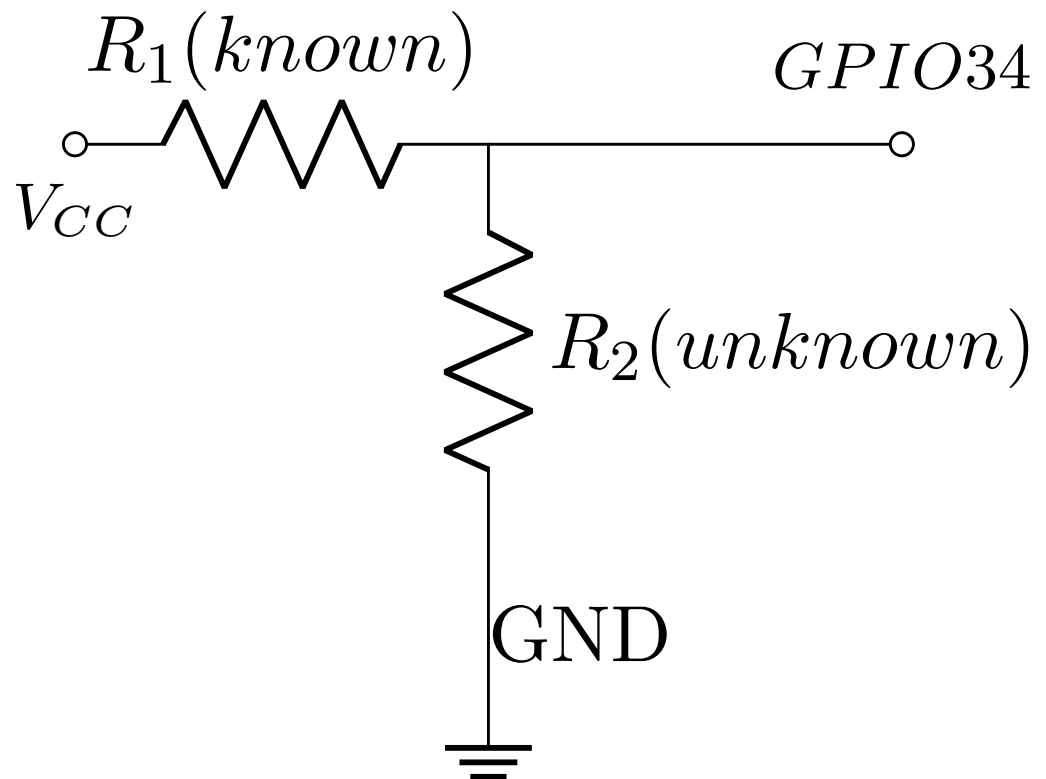

Figure 1.2.3.1: Voltage Divider
in series such that  $R_1$  is connected to  $V_{cc}$  and  $R_2$  is connected to GND. Refer to Fig. 1.2.3.1
1.2.4. The Ohm meter in this manual works on the principle of the voltage divider shown in Fig. 1.2.3.1.
1.4.3. Let  $R_1$  be the known resistor and  $R_2$  be the unknown resistor. Connect  $R_1$  and  $R_2$  in series such that  $R_1$  is connected to  $V_{cc}$  and  $R_2$  is connected to GND. Refer to Fig. 1.2.3.1